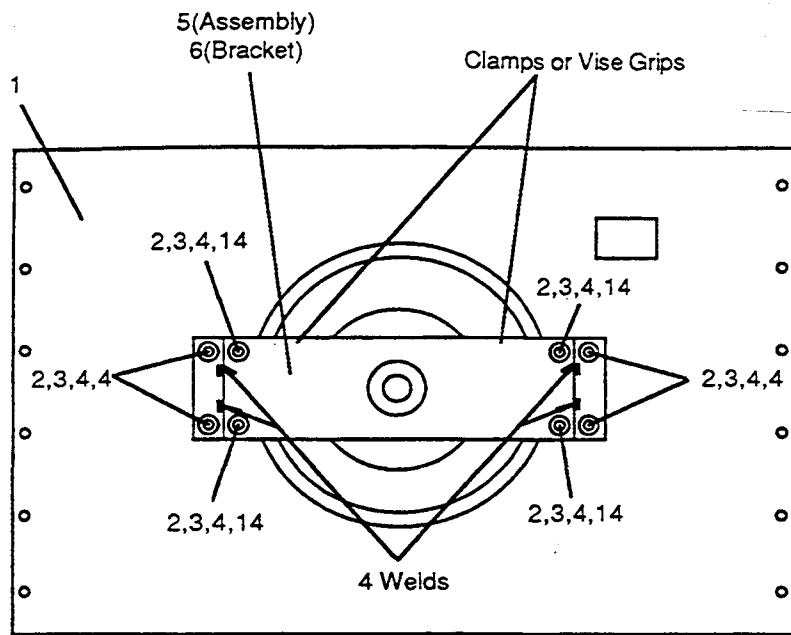

Figure 83
**NOTE:** Refer to Figures 83 thru 87.
**IMPORTANT:** Before attempting any repair on the PS200 Indirect Fan Drive Assembly (P/N 49400-0043) make certain the front and rear brackets (Item 6) are welded together as shown in Figure 83. If they are not welded together, the following steps must be taken to weld the bracket before it is removed from the oven. This must be done in order to retain proper alignment of front and rear brackets.
3. Before removing screws (Item 2) use two "C" clamps or vise grips as shown in Figures 83 and 86 to retain front and rear flange bearing (Item 10) alignment.
6. Weld Indirect Drive Bracket Assembly (Item 5) as shown in Figure 83.
7. When installing the Drive Bracket Assembly (Item 5) insert one 3/8" flat washer (Item 4) at the 4 outer holes and one 3/8" special flat washer (Item 14) at the 4 inner holes between bracket and back wall at mounting locations (See Figure 83). Use eight 3/8"-16 x 1" screws (Item 2) and assemble a 3/8" lockwasher (Item 3) and a 3/8" flat washer (Item 4) onto each screw. Insert a screw at all 8 locations, hand tighten only at this time.